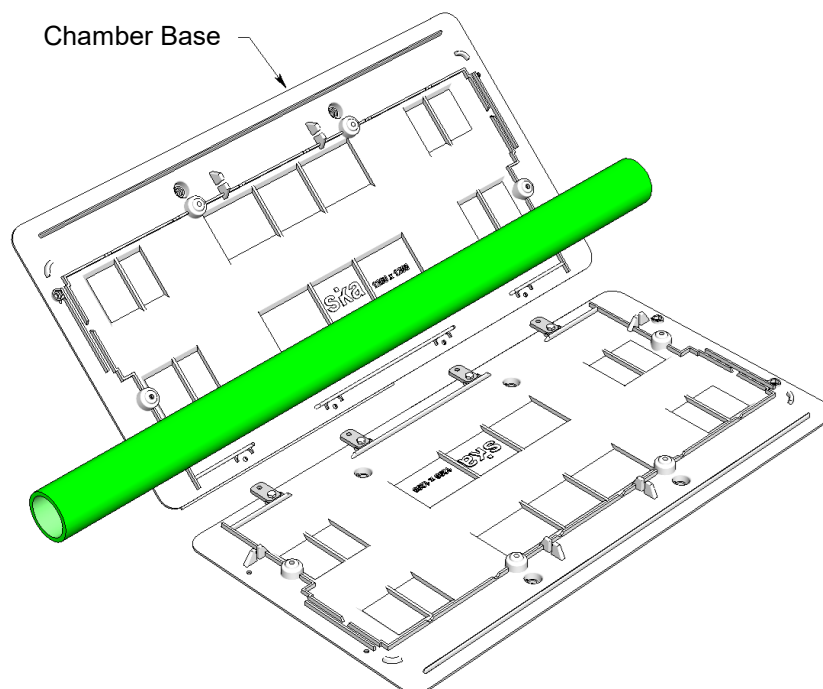

Fig 2
2. The **chamber base** may be assembled around existing duct work . Ref Fig 2